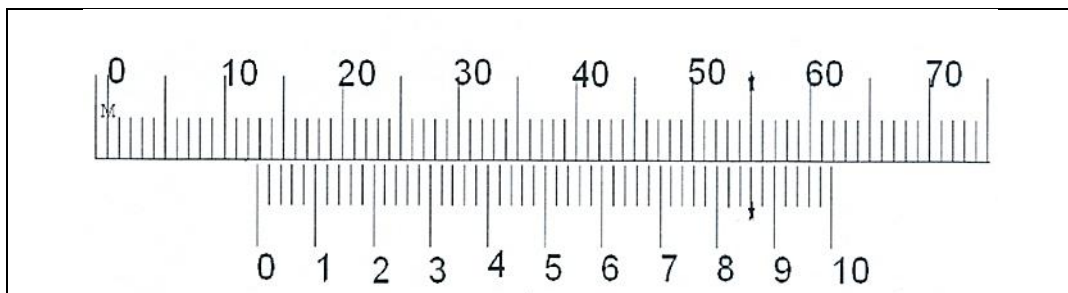

FIGURE 3.2
3.2 FIGURE 3.2 below shows a vernier calliper reading.